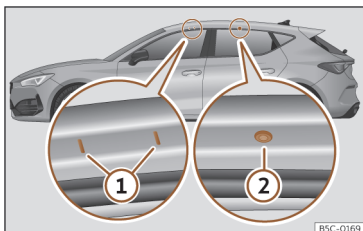

Fig. 201 Mounting points for the roof bars for the roof rack (Leon).
Valid for Leon: The front and rear attachment points (1) and (2) are only visible when the doors are open >>> **Fig. 201**.